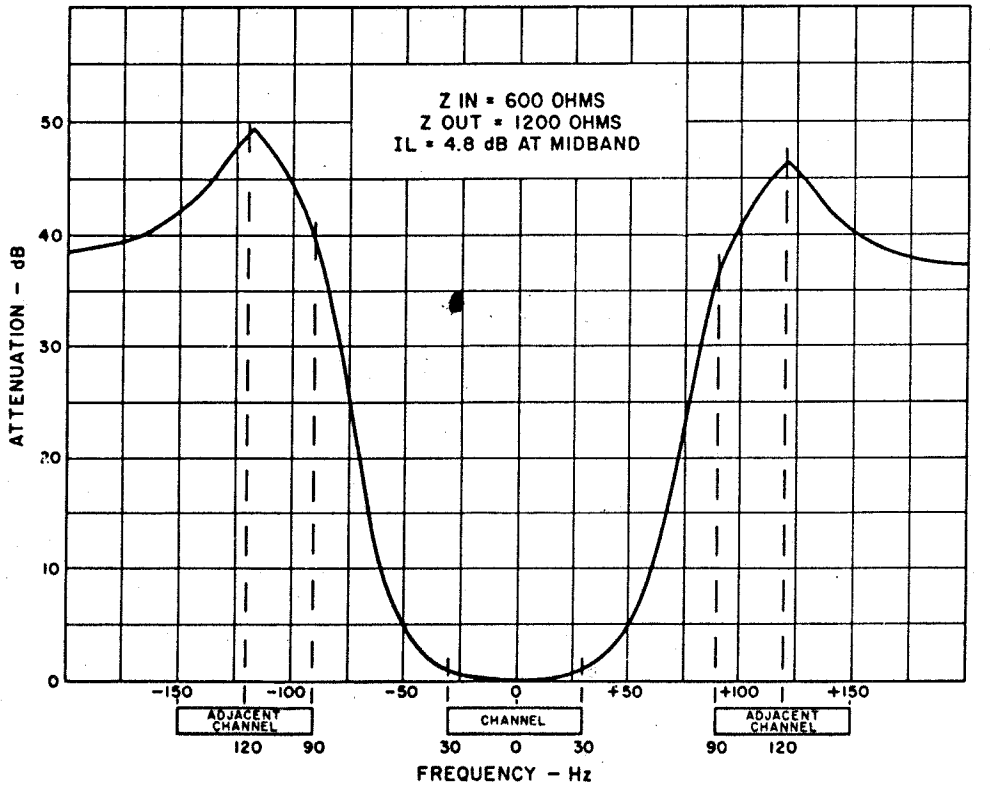

Figure 1. Typical Attenuation-Frequency Characteristics
3.01 The 37717 unit consists of a bandpass filter and a discriminator, and operates in conjunction with a receive unit to comprise the receive portion of a 75-baud telegraph transmission channel. The bandpass filter is tuned to the channel midband frequency and is connected between the receive v-f line and the input to the channel receiver. This filter will pass telegraph signals at a rate of up to 75 baud. SPACE and MARK frequencies, which are respectively 30 Hz above and below the midband, represent these telegraph signals and are passed by the filter to the receive channel limiter stages. Adjacent channel signals are attenuated approximately 40 dB. Response characteristics are shown in Figure 1.